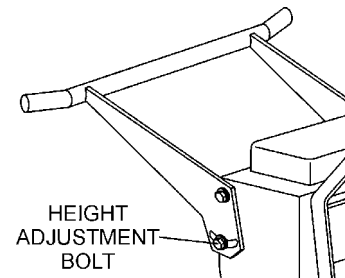

Figure 16. Handle Bar Adjustment Bolt
- Loosen the height adjustment bolts (Figure 16) on the handle bars until the handle bars can freely pivot.